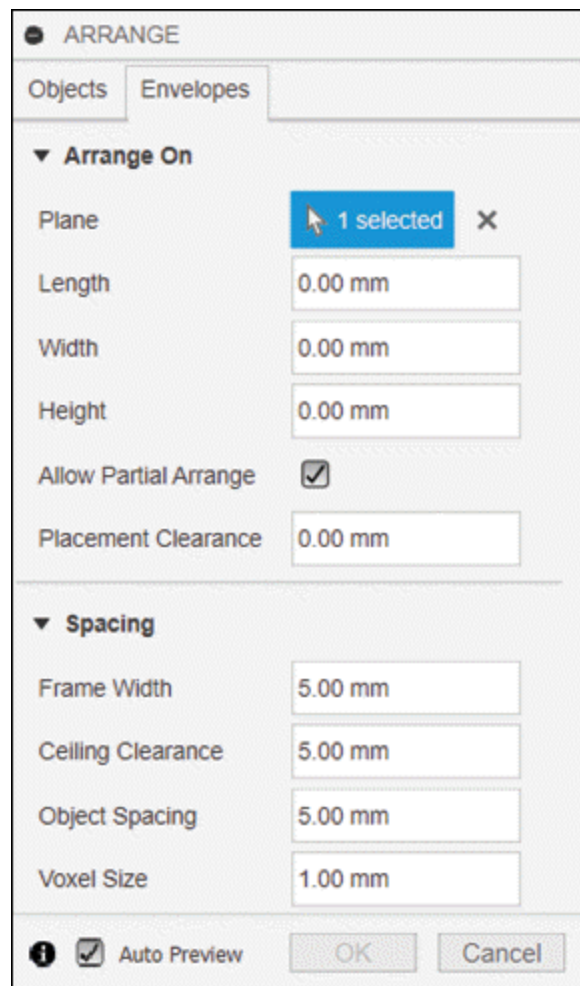

Figure-64. Envelopes tab for 3D
- Click on the **Envelopes** tab from the dialog box. The options will be displayed as shown in Figure-64.